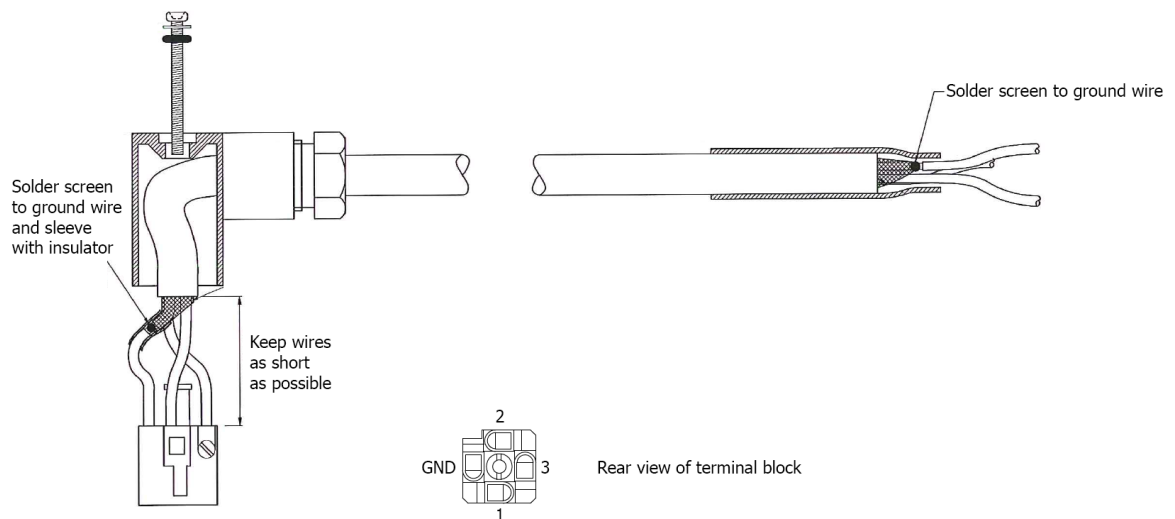

Figure 11 Cable Assembly
4. Cable should be assembled according to Figure 11.